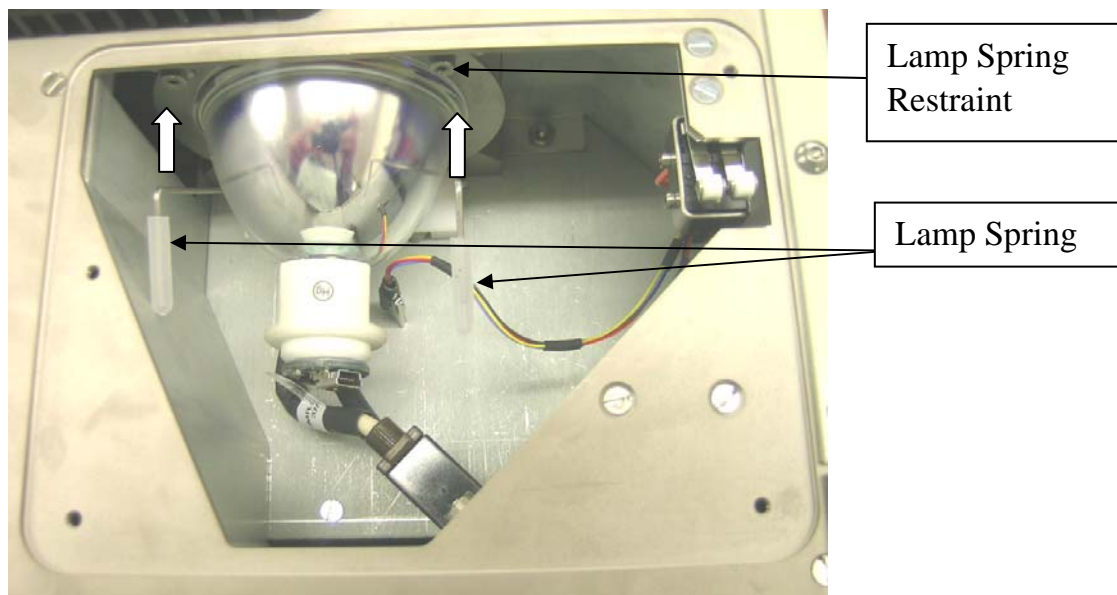

Figure 4.1e: Top section of the bulb clamp being pulled up with two fingers.
- Lift the spring towards the bulb, as you do so the bulb will be pushed into the correct position, click the springs all the way into the Lamp Spring Restraints. (see Figure 4.1e).